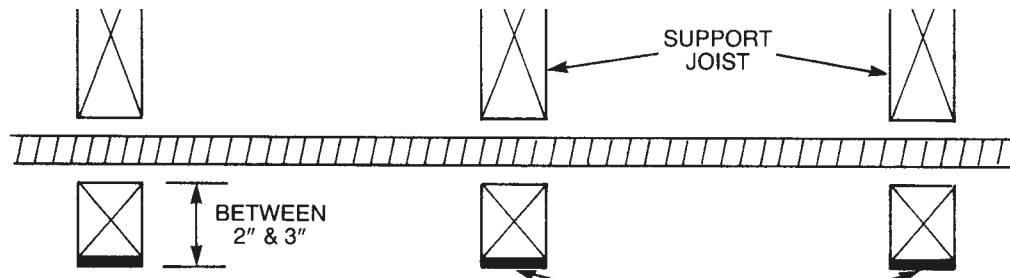

Figure: 4-8
- b. At support points and points of penetration 2 to 3 inches from any edge of stud, joist plate, etc. shielding is required throughout area of support. Use a quarter striker plate in these locations. (Figure: 4-8).